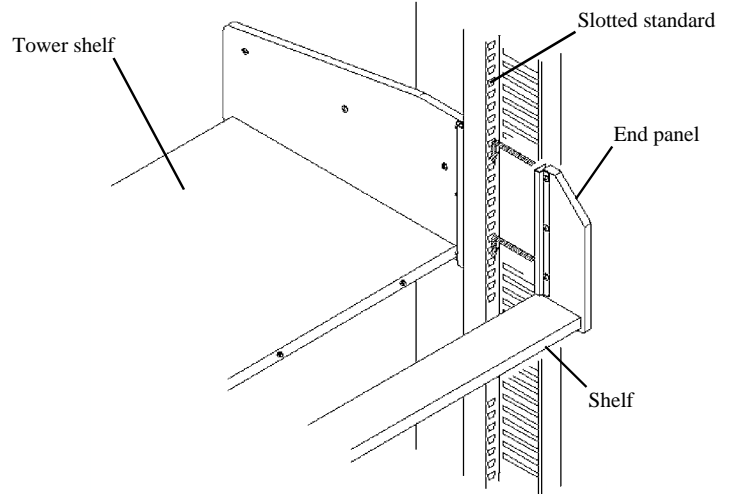

Figure 3
4. With two people, position the Shelf Extension End Panels opposite the End Panels of the already positioned Tower Shelf. To assure the hooks are seated in the slotted standard, tap the top rear corner with a plastic mallet or equivalent. See **Figure 3**.